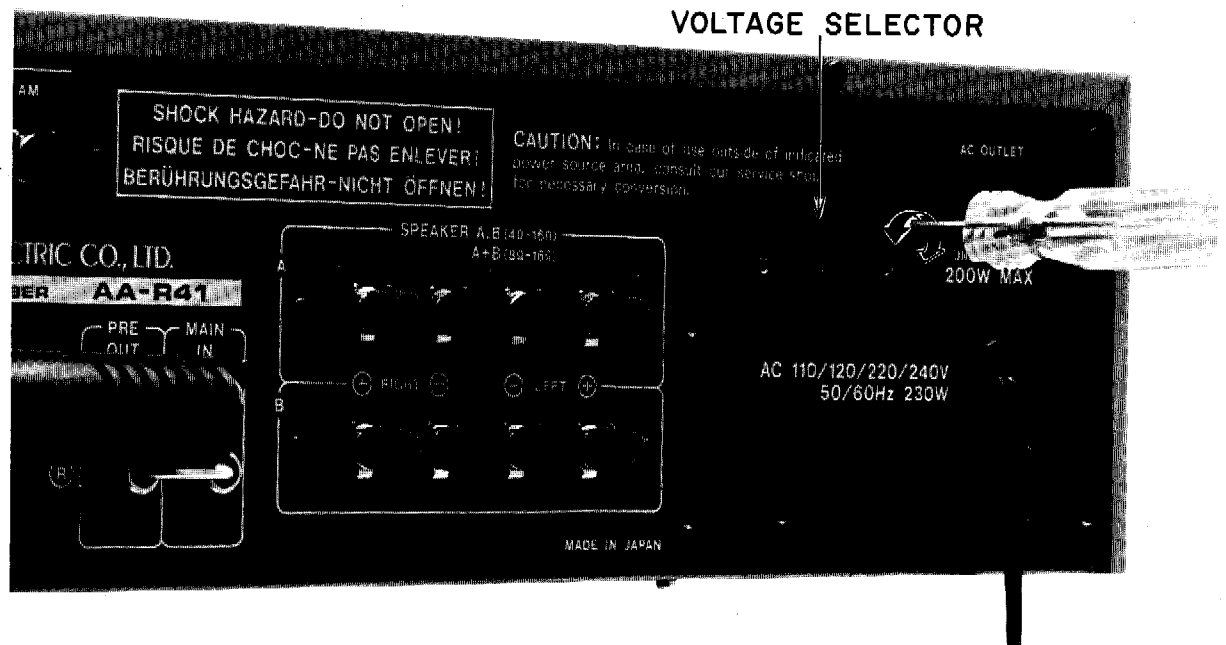

Fig. 7 Voltage Conversion (U/T Model Only)
3. Turn with a screwdriver until the correct voltage for your area is shown. (Refer to Fig. 7)